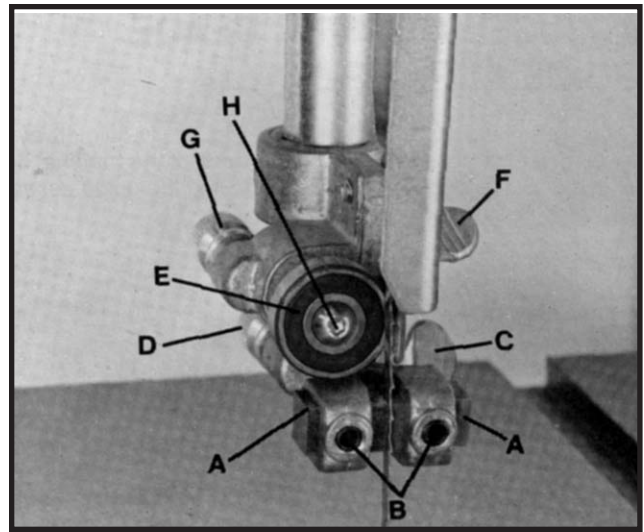

Fig. 23
1. The upper blade guides (A) Fig. 23, are held in place by means of the set screws (B). Loosen the set screws (B) to move the guides (A) as close as possible to the side of the blade, being careful not to pinch the blade. Then tighten the screws (B).
2. The guides (A) Fig. 23, should then be adjusted so that the front edge of the guides are just behind the "gullets" of the saw teeth. The complete guide block bracket can be moved in or out by loosening thumb screw (C) and turning knurled knob (D) Fig. 23. When guides (A) are set properly, tighten thumb screw (C).
3. The upper blade support bearing (E) Fig. 23, prevents the blade from being pushed too far to the back which could damage the set in the saw teeth. The support bearing (E) should be set $1/64$ behind the blade by loosening thumb screw (F) and turning knurled knob (G) to move the support bearing (E) in or out.
4. The blade support bearing (E) should also be adjusted so the back edge of the blade overlaps the outside diameter of the ball bearing by about $1/16$. The bearing (E) is set on an eccentric and to change position remove screw (H) and bearing (E) Fig. 23. Loosen thumb screw (F), back out screw (G) and re-position shaft that bearing (E) is attached to.